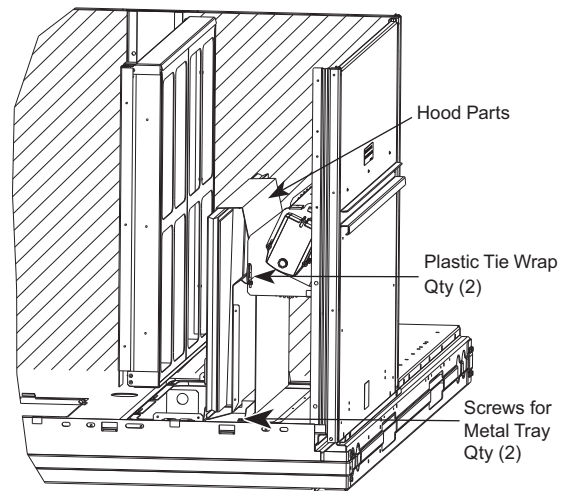

Fig. 11 — Economizer Hood Package Location
3. Locate the (2) screws holding the metal tray to the basepan and remove. Locate and cut the (2) plastic tie-wraps securing the assembly to the damper (see Fig. 11). Be careful not to damage any wiring or cut tie-wraps securing any wiring. The indoor coil access panel will be used as the top of the damper hood. Remove the screws along the sides and bottom of the indoor coil access panel.